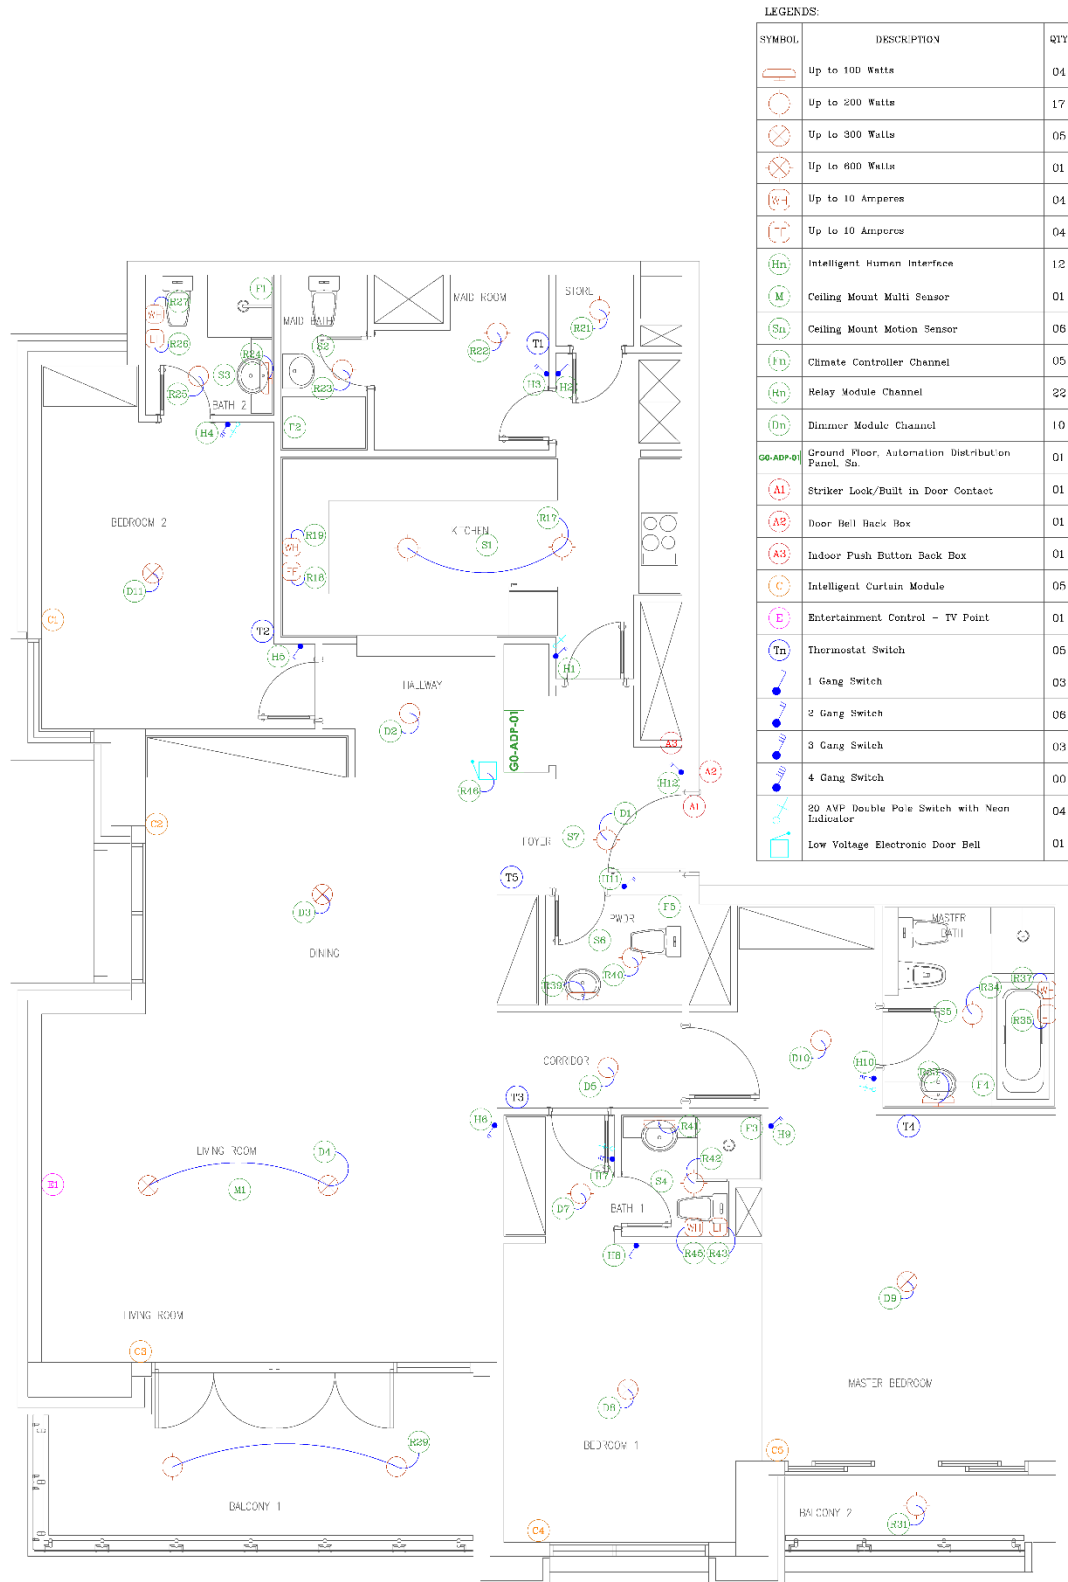

Figure 1.2.1: Apartment's Smart Home Basic System Layout
- All the wires should be labeled and terminated at the ADP according to the approved drawings as shown in Figures 1.2.1, 1.2.2, 1.2.3, 1.2.4 & 1.2.5. The labeling should be as follows:
- The location of each thermostat & its labeling should be indicated on the smart home system layout, bus cable layout and the schematic diagram as in Figures 1.2.1, 1.2.2 & 1.2.5 respectively.
- The location of each curtain & its labeling should be indicated on the smart home system layout, bus cable layout and the schematic diagram as in Figures 1.2.1, 1.2.2 & 1.2.5 respectively.
- The location of each sensor & its labeling should be indicated on the smart home system layout, bus cable layout and the schematic diagram as in Figures 1.2.1, 1.2.2 & 1.2.5 respectively. According to the number of Multi-sensors to be installed, it should be labeled as M1, M2 and M3...etc...
- The location of each device & its labeling should be indicated on the smart home system layout, bus cable layout and the schematic diagram as in Figures 1.2.1, 1.2.2 & 1.2.5 respectively.
- The location of the E outlet & its label should be indicated on the smart home system layout, bus cable layout and the schematic diagram as in Figures 1.2.1, 1.2.2 & 1.2.5 respectively. According to the number of Entertainment outlets to be installed, it should be labeled as E1, E2 and E3...etc...
1.2.10 AUDIO (A) DISTRIBUTION